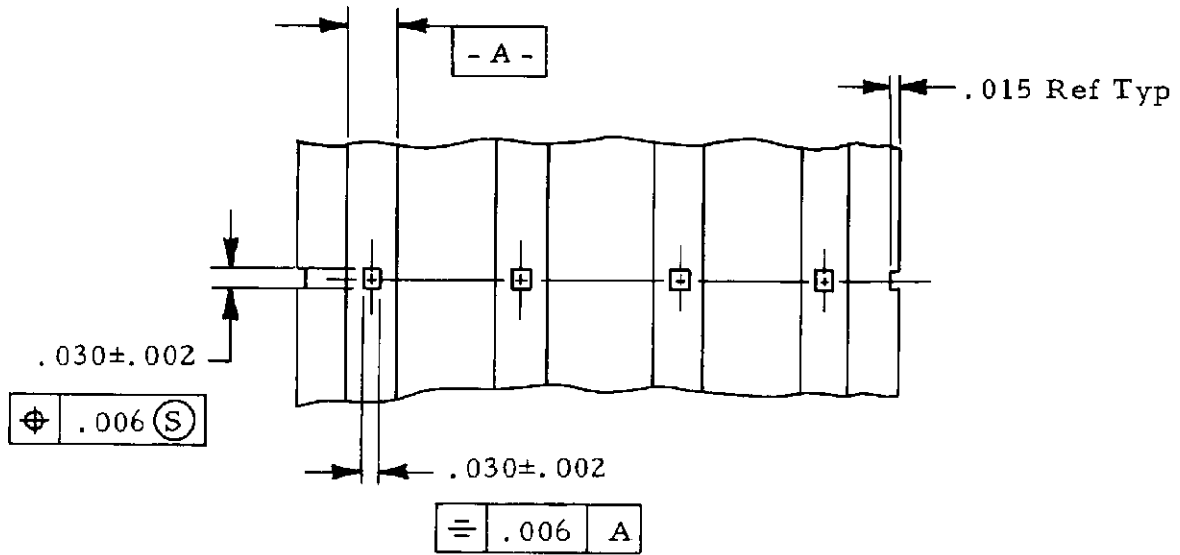

Figure 3
B. Cable shall be prepared for mounting contacts other than at the edge of the cable in accordance with Figure 3.